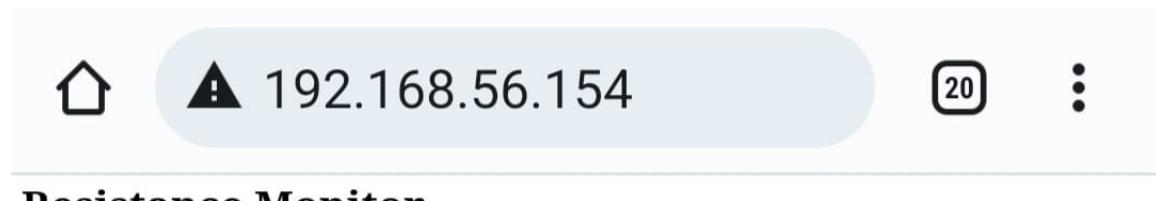

Figure 1.7: Website
- 1.4.4.8. In the website loaded by the IP address of Vaman-ESP32 the two unknown resistances are displayed as shown in Figure 1.7.